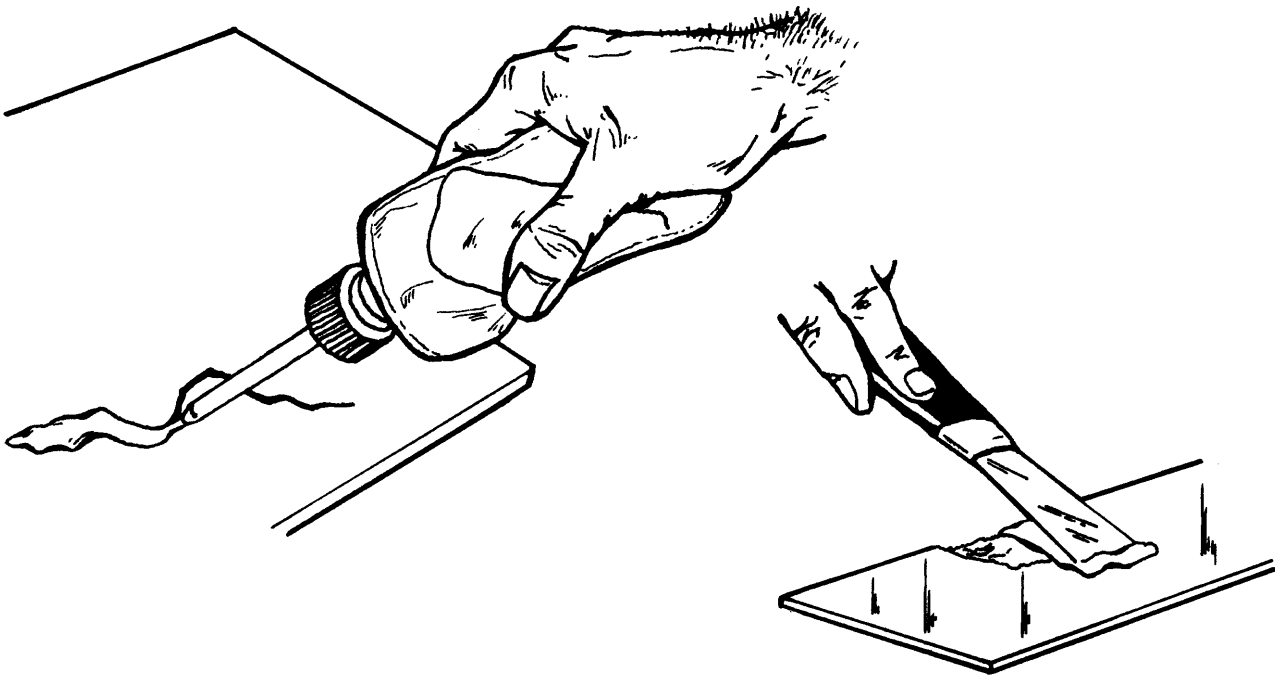

Figure 4-15. Deep Scratches, Shallow Nicks and Small Holes
- c. Deep Scratches, Shallow Nicks, and Small Holes: (Less than 1 inch in diameter.) (Refer to Figure 4-15.)